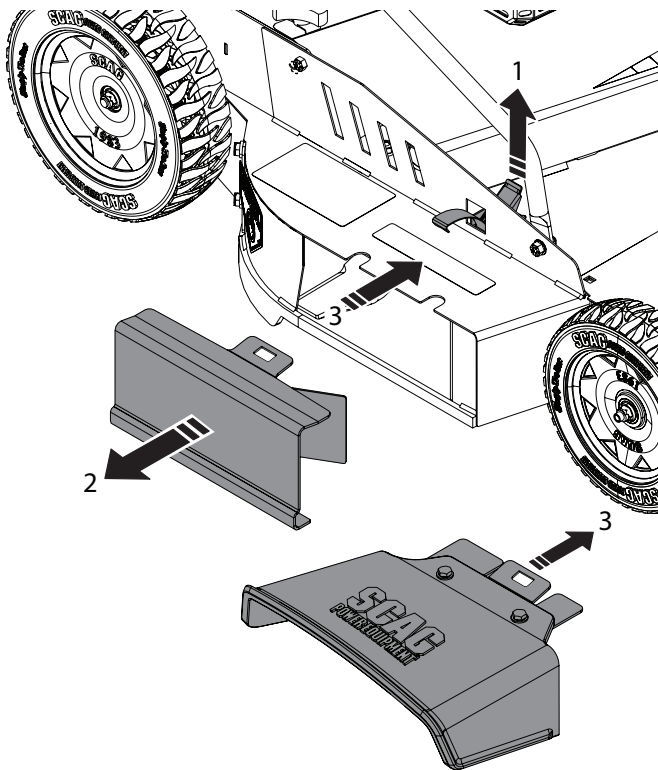

Figure 6-13. Side Discharge Conversion
3. Release the latch and remove the discharge block off plate. See Figure 6-13.